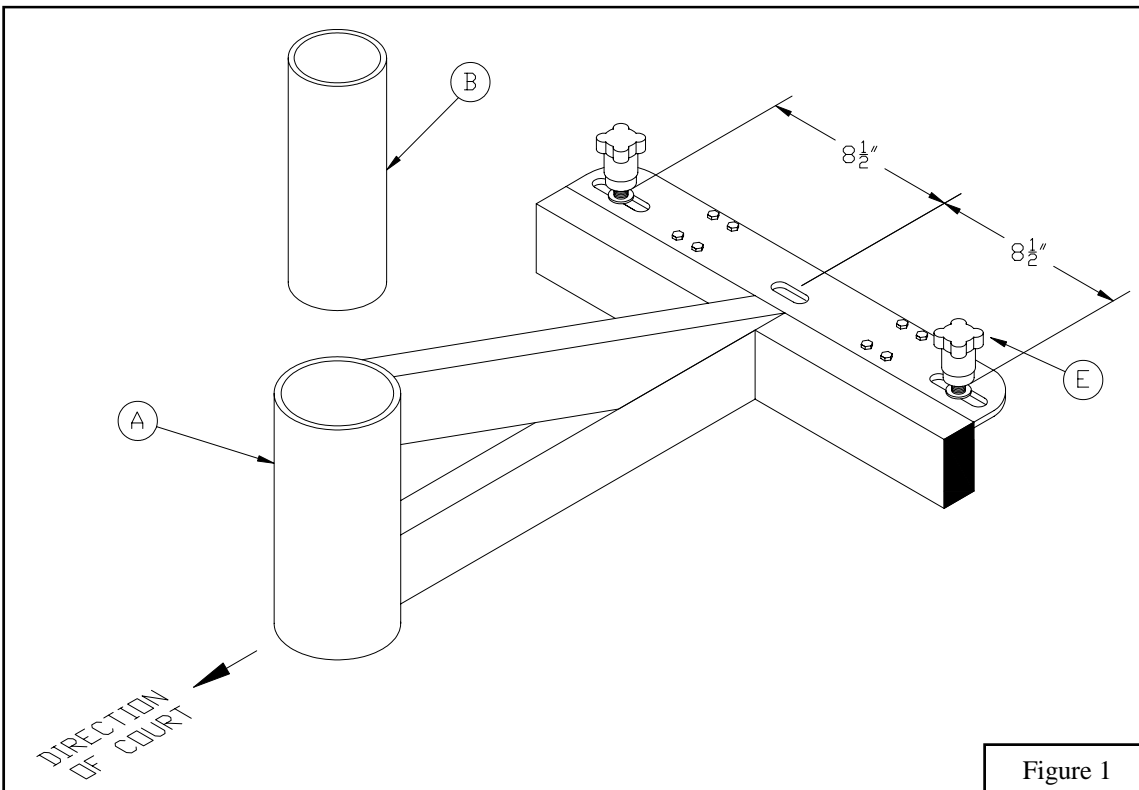

Figure 1
1. If applicable, follow the instructions provided with the *Floor Sockets* (F) to prepare the court for system installation, use the diagram on page 3 to locate the *Floor Sockets* (F) on your court.
2. Place the *VB60S Volleyball Standards* (A) in the *Floor Sockets* (F) with the *Slider Bars* (B) and (C) toward the inside of the court.
4. Attach the kevlar top rope to the *Slider Bars* (B) and (C). On the *Net Tensioning Slider Bar* (B), the rope will loop over the pulley and attach to the spring clip on the end of the winch strap. On the *Non-Tensioning Slider Bar* (C) attach the loop to the hook on the top of the *Non-Tensioning Slider Bar* (C). See Figure 1.
5. Tension the top rope by tightening the net top tension crank. See Figure 1.
6. Attach the loop on one end of the bottom rope to the hook on the bottom of the slider bar. Attach the other end of the bottom rope with the spring hook on the rope ratchet. Tension the bottom rope by pulling the rope through the bottom *Rope Ratchet Tensioner* (E). See Figure 1.
7. Loop two small *Rope Ratchet Tensioners* (E) around each standard and through the eyelets on the net side tapes. Tension the net sides by pulling the end of the ropes. Release the *Rope Ratchet Tensioners* (E) by pressing on the release button. *Rope Ratchet Tensioners* (E) should be rotated close to the pole and behind the padding to prevent contact with players. See Figure 1.
8. Once the *VB1250K Net* (G) is attached it must be adjusted to its desired height. Loosen the winch to release the net tension. Do this before moving the *Slider Bars* (B) and (C). See Figure 1.
- After the net tension has been released, loosen the *Slider Bar (B)* and *(C)* locking knobs to allow the *Slider Bars (B)* and *(C)* to freely move up and down. Adjust *VB1250K Net (G)* to desired height. Once the top of the *VB1250K Net (G)* is at the desired height, tighten the *Slider Bar (B)* and *(C)* locking knobs and net top tension crank. See Figure 1.
1. *T-Base* (A) may include *Sleeve Adapter* (B). Discard if not needed for your diameter pole.
2. Position *T-Bases* (A) so that the posts are 37 feet apart center to center. Locate *Floor Anchor* (D) positions to align with the center of the rear t-base slots, 17" apart. See Figure 1.
3. Install the *Floor Anchors* (D) into the floor following the instructions provided with the *Floor Anchors* (D).
4. The *Hold Down Knobs* (E) are factory preset, just tighten to the *Floor Anchors* (D), do not over tighten which will lift the front of the *T-Base* (A) off the floor. See Figure 1.
5. Install the *Base Padding* (F) and the *Post Padding* (C).